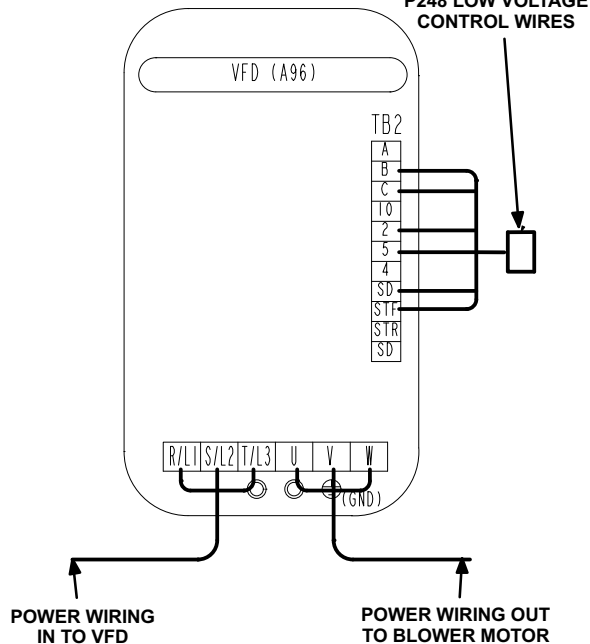

FIGURE 1
- 5- Carefully connect existing wires to the replacement VFD as illustrated in figure 1. On units without harnesses, take care to properly connect the power wiring going into and out of the VFD. When replacing a Toshiba VFD, see Toshiba Replacement section.